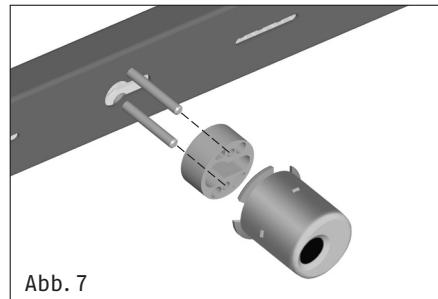

Abb. 7
5. Remove the cylinder protection according to Fig. 7 and place additional spacer disc/s (Tab. 1.) between the cylinder protection and the lock body. Tighten with screws (Tab. 1.).